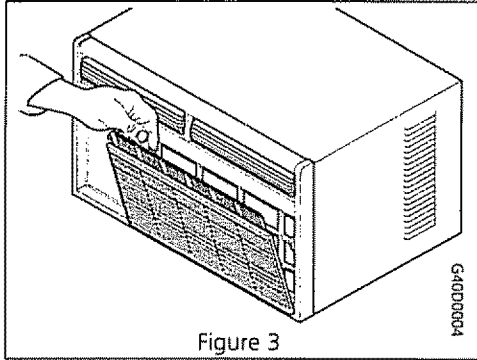

Figure 3
- When the filter or filter tab is visible on front of unit, grasp the filter located behind the front panel and pull. Or, gently pull the top of the front panel toward you, pivoting it away from the cabinet. Pull the filter up and out by grasping the tabs on the filter frame (Figure 3)